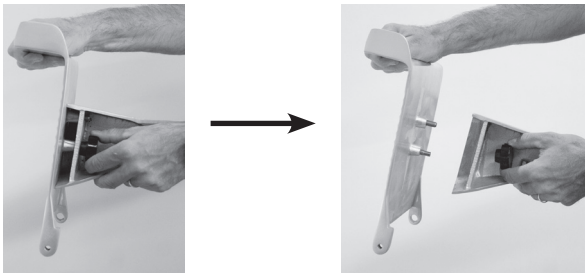

Figure 11-2
5. Continue by removing the food chute. Loosening the food chute release knob that fastens the food chute to the chute arm (Fig. 11-2). Remove the food chute from the slicer.